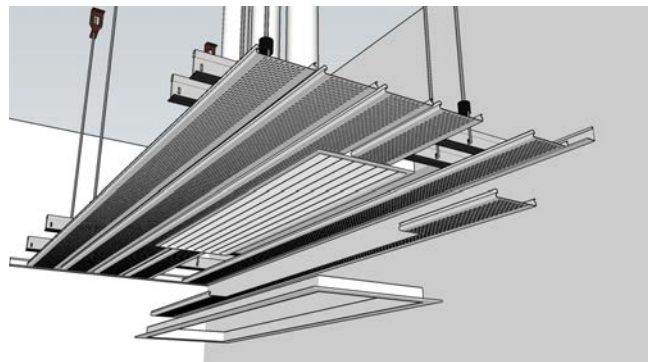

Figure 17 - Insulation on Paneline panel
- During the installation process, ensure the correct positioning of the approved insulation between the Panelok rails (See Figure 17). The insulation must be equipped with a black acoustic scrim, which adeptly conceals visible ceiling services and offers a final touch to the Paneline installation.